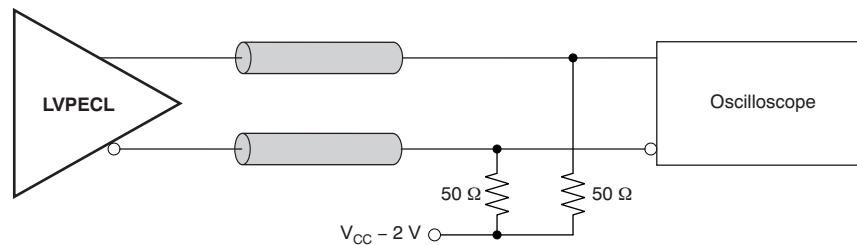

Figure 10. LVPECL Output DC Configuration During Device Test
(1) Figure 10 and Figure 11 show DC and AC test setup.
(2) Internally generated bias voltage (V_{AC_REF}) is for 3.3-V operation only. TI recommends applying externally generated bias voltage for $V_{CC} < 3\text{ V}$.